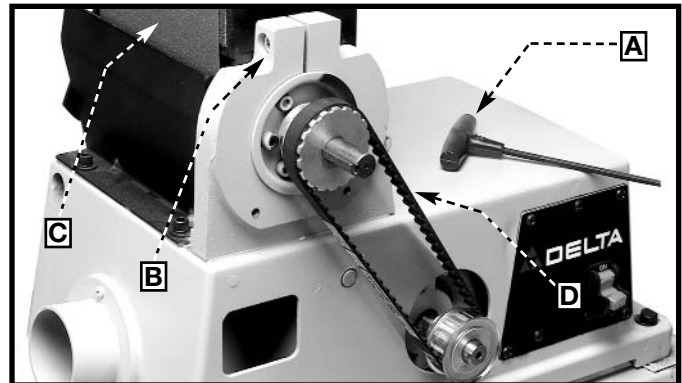

Fig. 6
Use the supplied hex wrench (A) Fig. 6 to loosen the screw (B). Move the sanding arm (C) to the vertical position. Tighten the screw (B). Place the drive belt (D) on the pulleys.